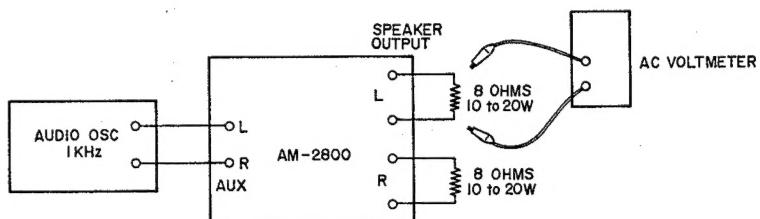

Fig. 6 Level Meter Adjustment
- 1) Connect instruments as shown in Fig. 6.